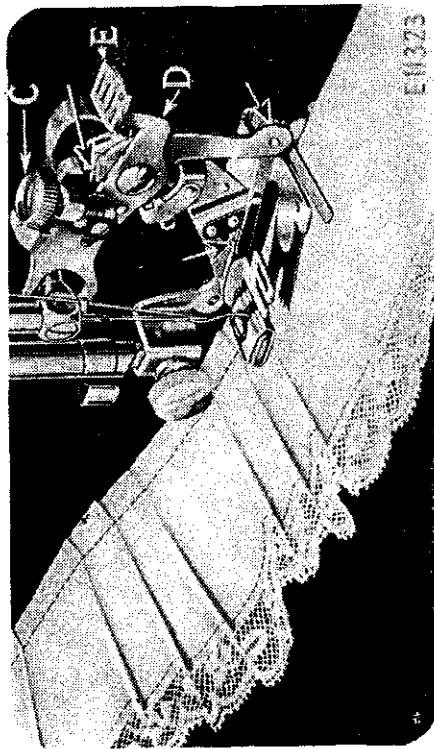

FIG. 48.
right so that the top of the projection (D) enters the small slot indicated by the star on the adjusting lever. This should be done at the points where you wish to make the space between the plaits. The ruffler will then stop and plain stitching will be made. When the desired space has been made, adjust the lever (E) so that the projection (D) enters either the slot marked "6" or the slot marked "12." By alternately making groups of plaits and plain spaces, as shown in Fig. 48, very attractive work can be produced.
Occasionally apply a drop of oil to the working parts of the ruffler at each of the places indicated by the unlettered arrows in Fig. 48. After oiling, operate the ruffler on a waste piece of material to prevent the oil soiling the work. If the ruffler does not plait evenly, a drop of oil may remedy the trouble.